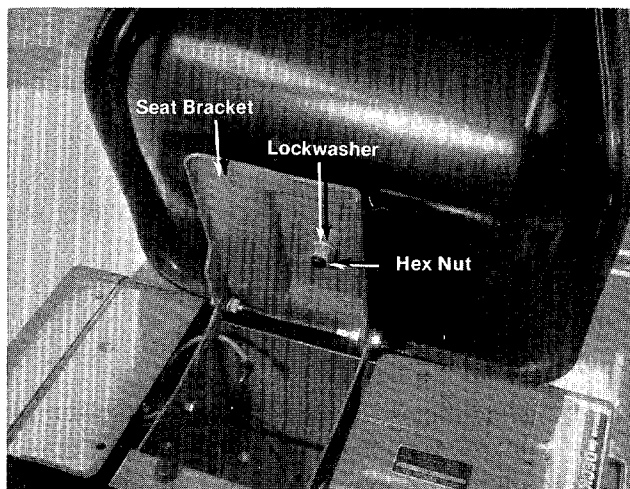

FIGURE 2. SEAT ASSEMBLY
Step 6. Place the seat in desired hole on seat bracket. Secure with hex nut and lock-washer. See figure 2.